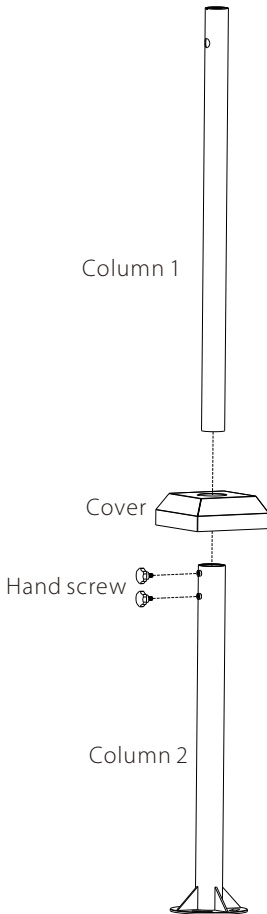

Figure 1
Step 3: Insert the column 1 into the column 2 and tighten it in by hand screws, as shown in figure 1.